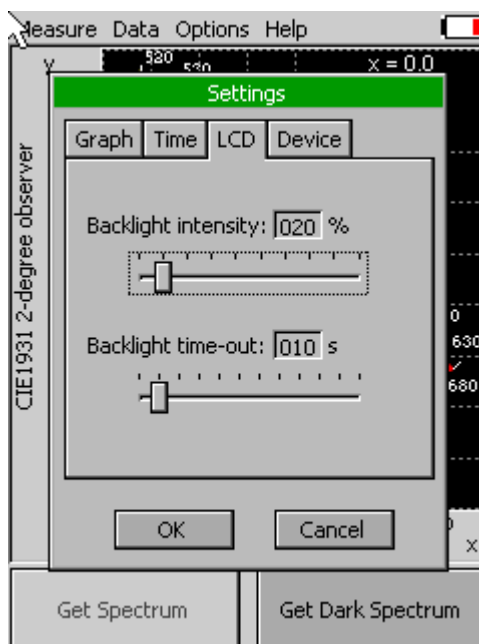

Fig. 14 LCD settings.
- **LCD** – is used to adjust LCD display control settings (Fig. 14)